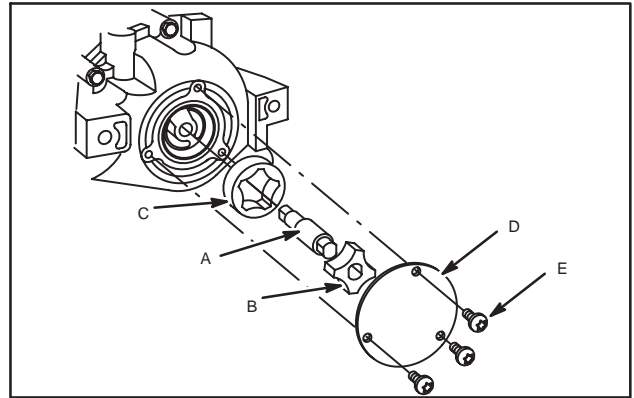

Fig. 7 – Assemble Oil Pump
3. Lubricate oil pump components with engine oil and assemble to sump, Fig. 7. Make sure drive shaft is engaged in camshaft.